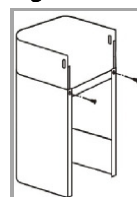

Fig. 2
**For the exhaust mode (Fig. 2):**